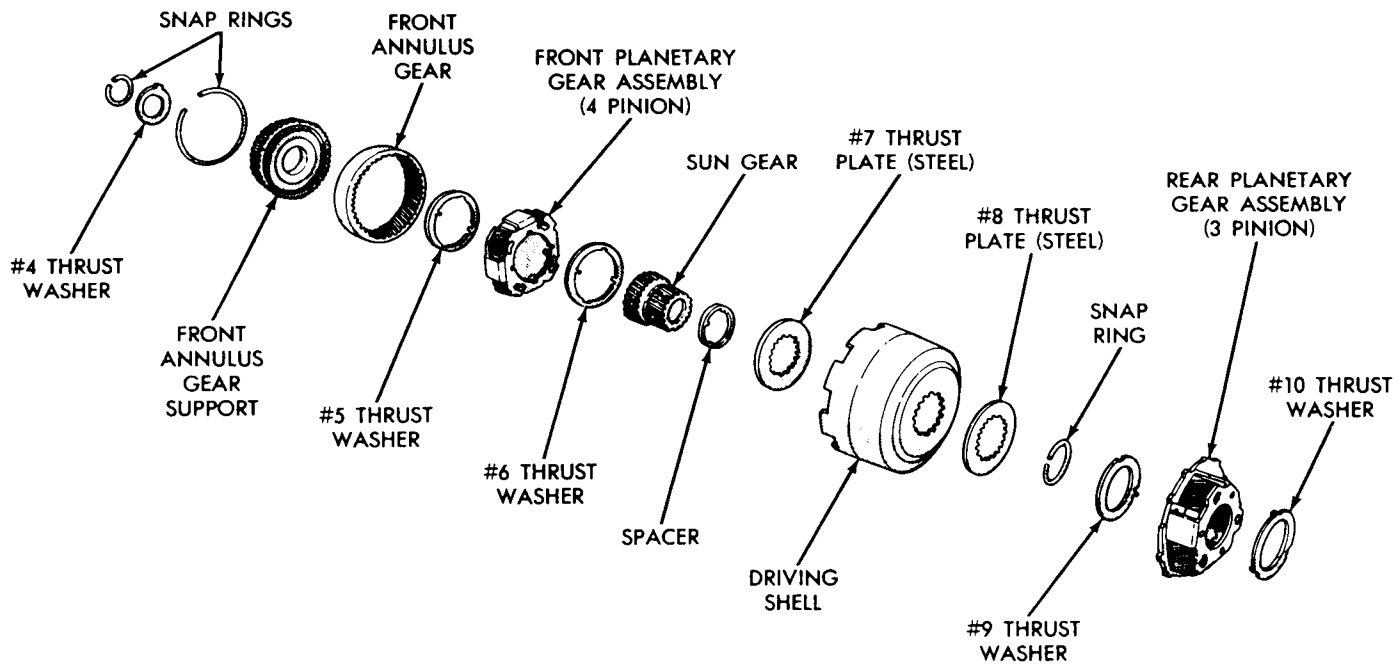

Fig. 21—Planetary Gear Train
Disassembly (Fig. 21)
(3) Remove snap ring and #4 thrust washer from forward hub of front planetary gear assembly, slide front annulus gear and support off planetary gear assembly. Remove #5 thrust washer from front side of planetary gear assembly. Remove #6 thrust washer from rear side of planetary gear assembly. If necessary, remove snap ring from front of annulus gear to separate support from annulus gear.
(4) Slide sun gear, driving shell, and rear planetary assembly off the output shaft.
(5) Lift sun gear and driving shell off rear planetary assembly. Remove snap ring and #8 thrust plate from sun gear (rear side of driving shell). Slide sun gear out of driving shell, and remove spacer (Fig. 21), and #7 thrust plate from opposite end of sun gear, if necessary.
(6) Remove #9 thrust washer from forward side of rear planetary assembly and remove planetary gear assembly from rear annulus gear. Remove #10 thrust washer from rear side of planetary assembly. If necessary, remove snap ring from rear of annulus gear to separate support from annulus gear.
Refer to Figure 21 for parts reference.
(4) Install #7 thrust plate and spacer on wide-ratio transmissions (Fig. 21) on one end of sun gear. Insert sun gear through front side of driving shell, install #8 thrust plate and snap ring.
(5) Carefully slide driving shell and sun gear assembly on the output shaft, engaging sun gear teeth with rear planetary pinion teeth.
(6) Place front annulus gear support in the annulus gear and install snap ring.
(7) Position #5 thrust washer on front side of front planetary gear assembly. Position front planetary gear assembly in front annulus gear, place #4 thrust washer over planetary gear assembly hub and install snap ring. Position #6 thrust washer on rear side of planetary gear assembly.
(8) Carefully work front planetary and annulus gear assembly on output shaft, meshing planetary pinions with sun gear teeth.
(9) With all components properly positioned, install selective snap ring on front end of output shaft. Remeasure end play of the assembly. The clearance can be adjusted by the use of various thickness snap rings. Snap rings are available in .042, .064, and .084 inch thickness.